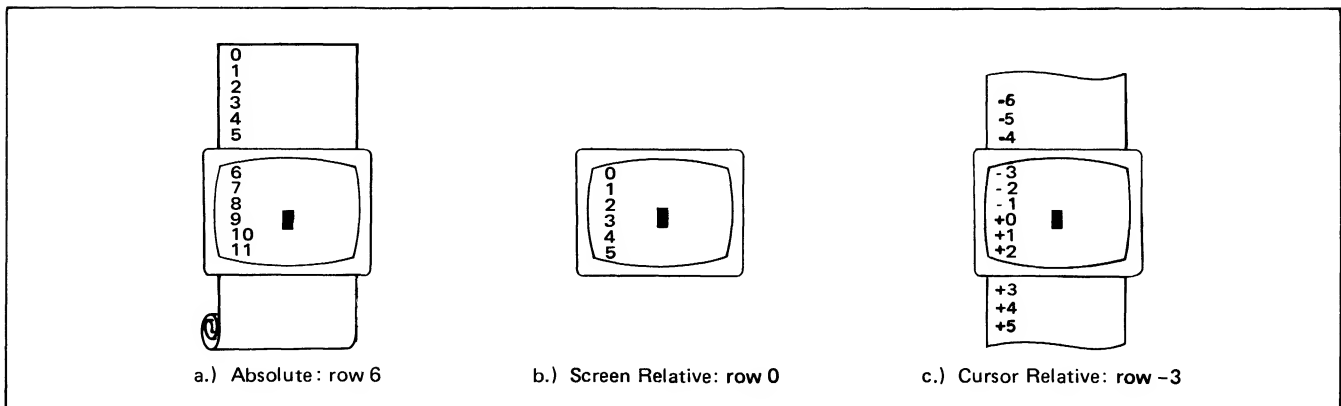

Figure 2-1. Row Addressing
**ROW ADDRESSING.** Figure 2-1 illustrates the way the three types of addressing affect row or line numbers. The cursor is shown positioned in the fourth row on the screen. Screen row 0 is currently at row 6 of display memory.